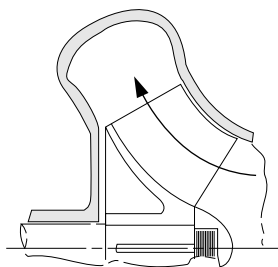

FIGURE 5. Mixed Flow
- A pump in which the head is developed partly by centrifugal force and partly by the lift of the vanes on the liquid. This type of pump has a single inlet impeller with the flow entering axially and discharging in an axial/radial direction (Figure 5).